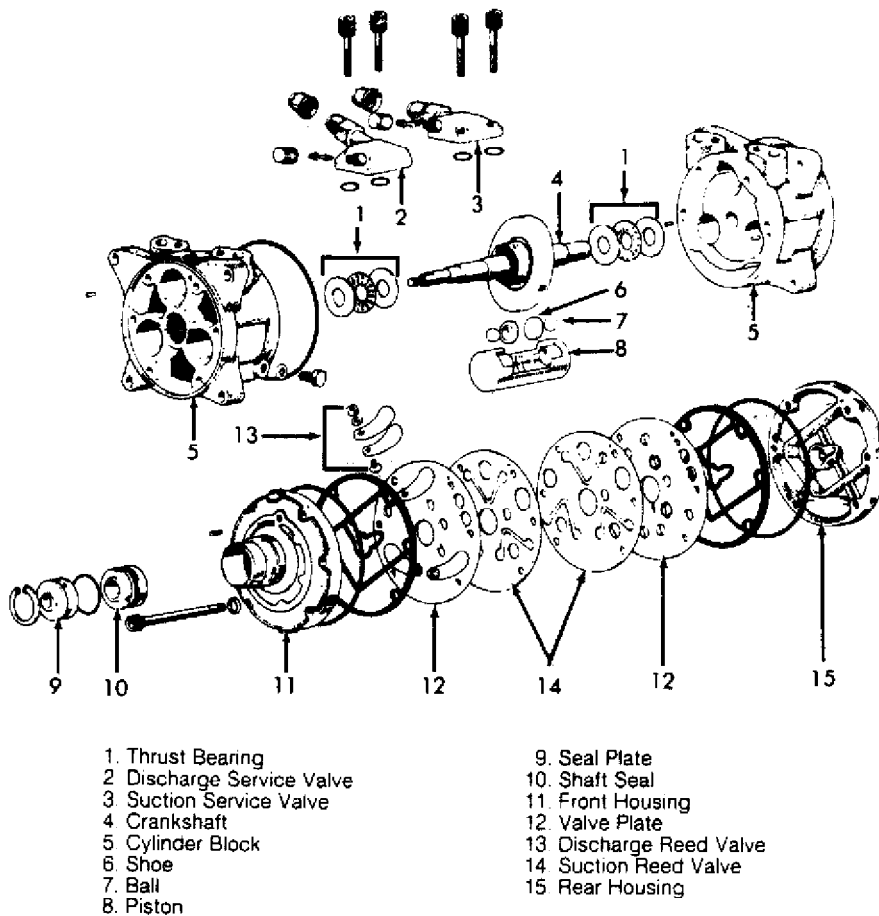

Fig. 12: Nippondenso 6-Cylinder Compressor
2) Remove shims from pressure plate. Remove snap ring from compressor. Tap rotor off shaft with plastic hammer. Disconnect stator wire from housing. Remove snap ring from inside stator. Remove stator. See Fig. 12.
5) Remove 6 through bolts from front head of compressor and discard washers. Tap head loose from compressor; be careful not to scratch sealing surfaces. remove snap ring (if equipped) from front housing. Press seal plate out. Remove seal from shaft. See Fig. 12.